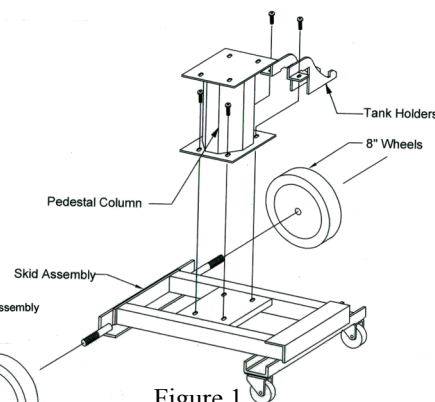

Figure 1
- 1) Place Pedestal Column onto the Skid Assembly. Align the holes in Lower Plate with the holes in the Center Skid Plate as shown in Figure 1.